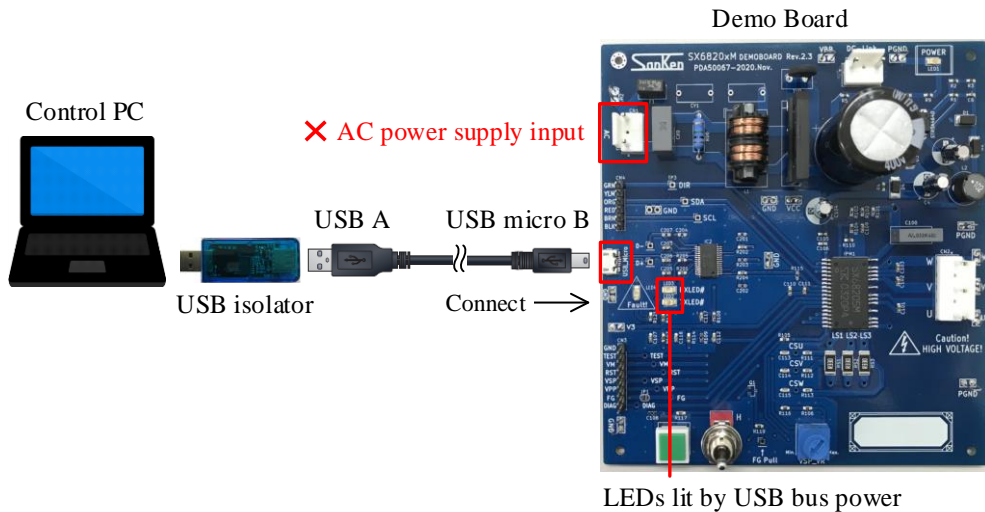

Figure 2-3. Connection by USB Cable
- 2) Connect the USB isolator and the demo board by using a USB cable (Figure 2-3) or FTDI cable (Figure 2-4).